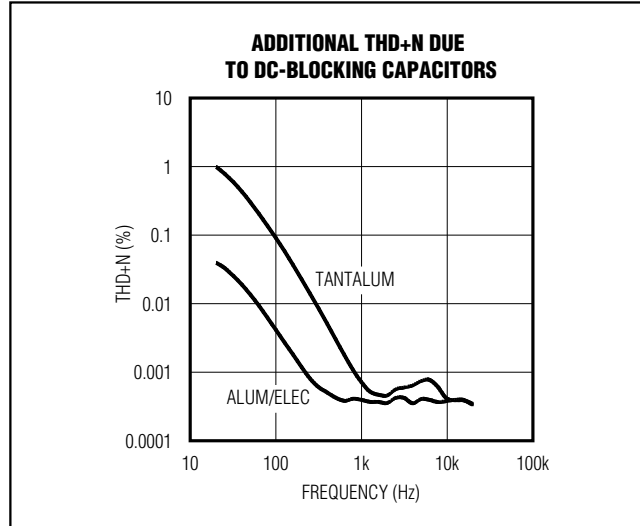

Figure 5. Distortion Contributed by DC-Blocking Capacitors
- The voltage coefficient of the DC-blocking capacitor contributes distortion to the reproduced audio signal as the capacitance value varies and the function of the voltage across the capacitor changes. The reactance of the capacitor dominates at frequencies below the -3dB point and the voltage coefficient appears as frequency-dependent distortion. Figure 5 shows the THD+N introduced by two different capacitor dielectric types. Note that below 100Hz, THD+N increases rapidly. The combination of low-frequency attenuation and frequency-dependent distortion compromises audio reproduction in portable audio equipment that emphasizes low-frequency effects such as in multimedia laptops, MP3, CD, and DVD players. By eliminating the DC-blocking capacitors through DirectDrive technology, these capacitor-related deficiencies are eliminated.